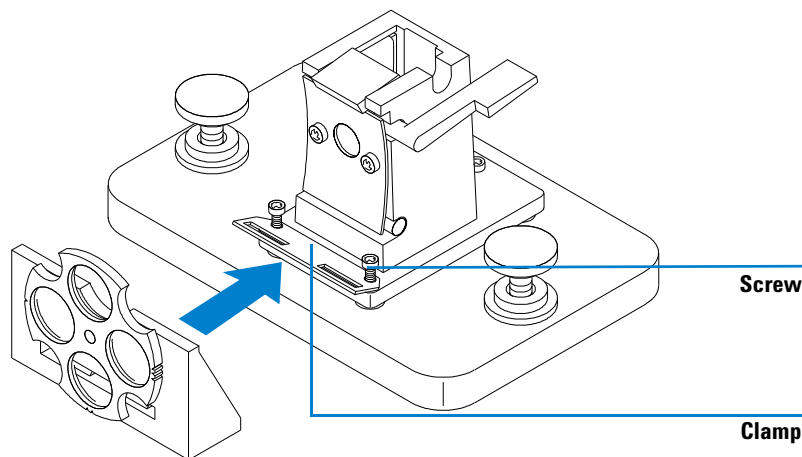

Figure 22 Installing the Optical Filter Wheel Assembly
- 2 Remove the two screws shown in Figure 22.
- 3 Position the filter wheel assembly clamp as shown in Figure 22. Replace the two screws but do not tighten them.